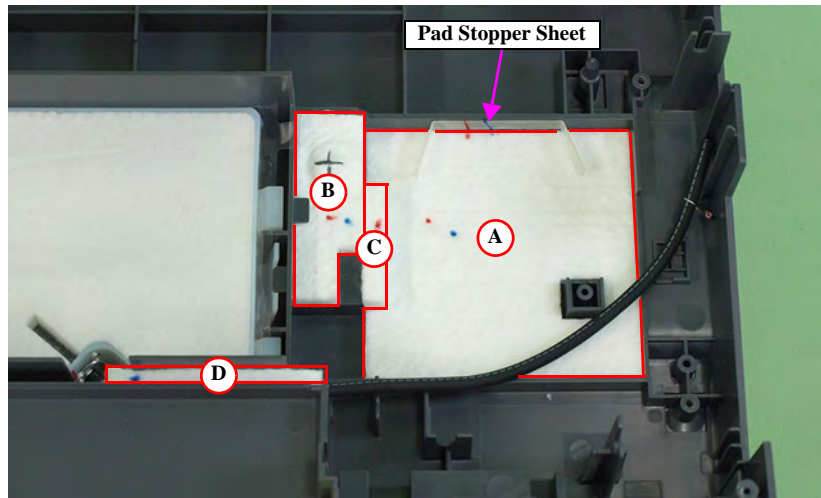

Figure 4-101. Removing the Waste Ink Pad
- Referring to Figure 4-101, correctly attach the four Waste Ink Pads.